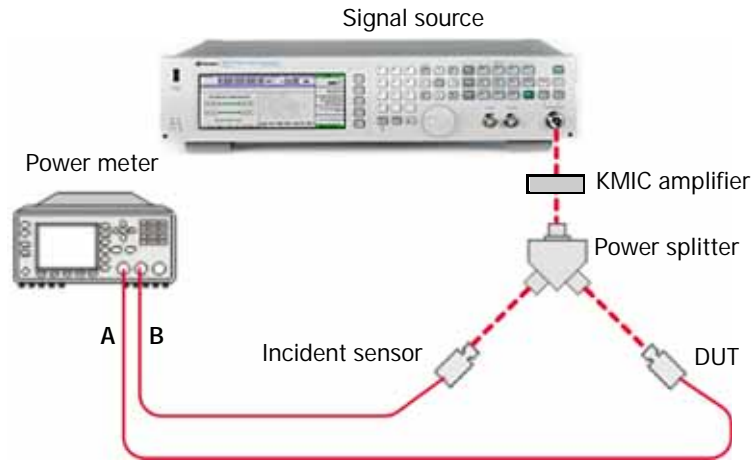

Figure 2-4 Sensor accuracy performance test setup for the N1922A (26.5 GHz to 40 GHz)
- 12 The test equipment setup is as shown in **Figure 2-4**.